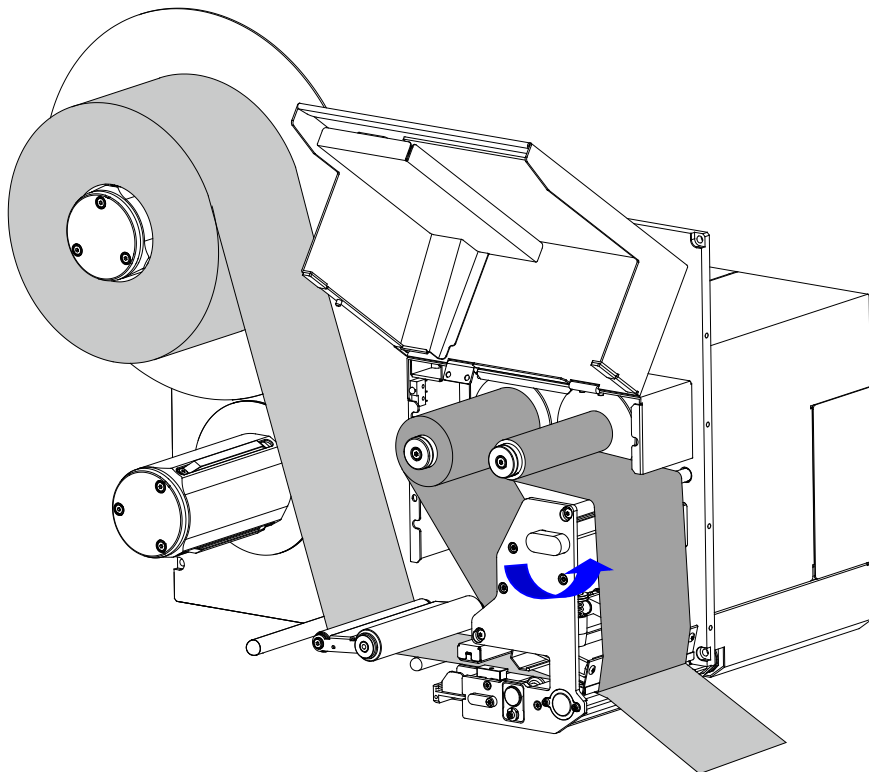

Figure 2-22 Lock the Printhead
5. Turn the Printhead Handle clockwise to lock the Printhead in place, as shown in Figure 2-22.